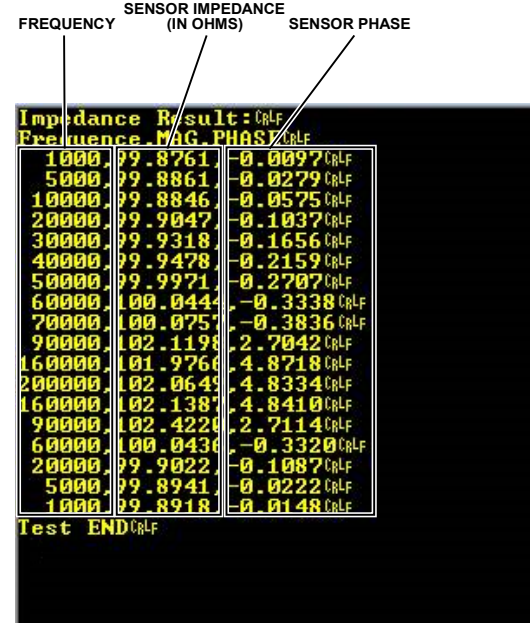

Figure 20. Impedance Results
5. When the impedance measurement completes, the results are sent to the UART (see Figure 20). Optionally, save the results in a Microsoft Excel file for further analysis.